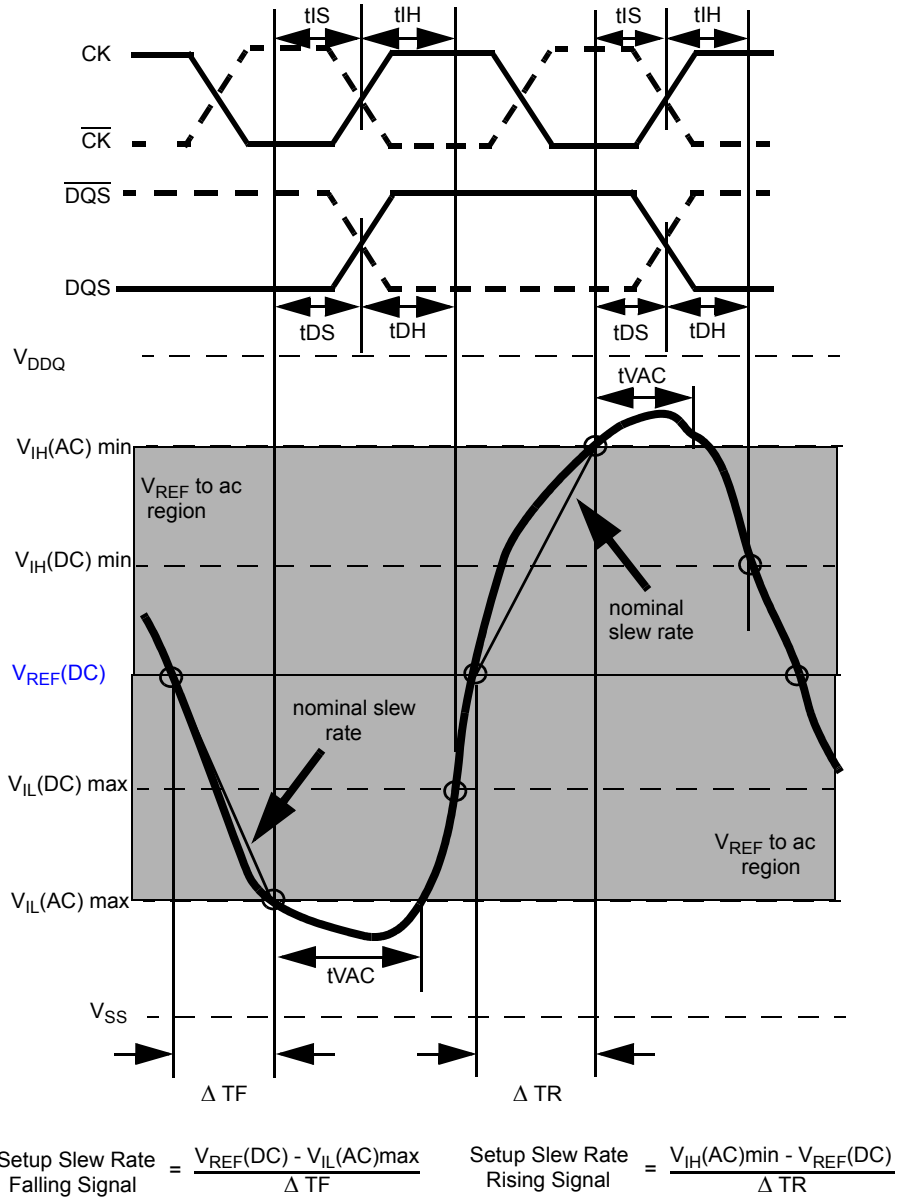

Figure 26. Illustration of nominal slew rate and t_{VAC} for setup time t_{DS} (for DQ with respect to strobe) and t_{IS} (for ADD/CMD with respect to clock).
Setup (tDS) nominal slew rate for a rising signal is defined as the slew rate between the last crossing of VREF(DC) and the first crossing of VIH(AC)min. Setup (tDS) nominal slew rate for a falling signal is defined as the slew rate between the last crossing of VREF(DC) and the first crossing of VIL(AC)max (see Figure 26). If the actual signal is always earlier than the nominal slew rate line between shaded 'VREF(DC) to ac region', use nominal slew rate for derating value. If the actual signal is later than the nominal slew rate line anywhere between shaded 'VREF(DC) to ac region', the slew rate of a tangent line to the actual signal from the ac level to dc level is used for derating value (see Figure 28).